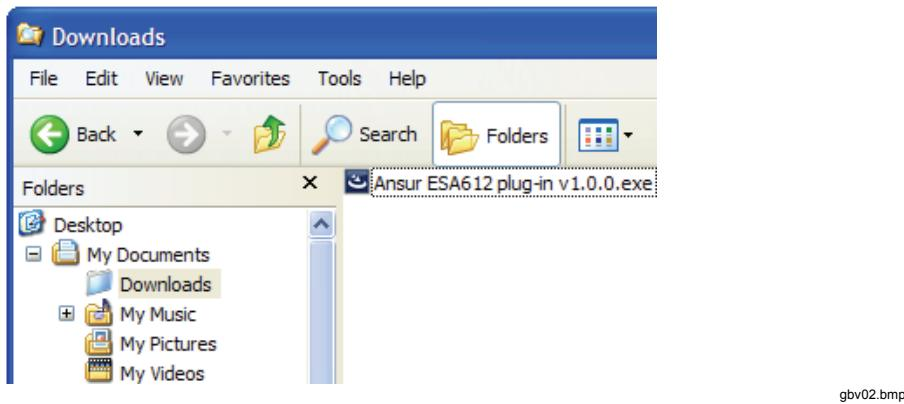

Figure 2-1. ESA612 Plug-In Installation File Location
1. Open **Windows Explorer** and browse to the saved ESA612 Plug-In installation program file, usually named **Ansur ESA612 Plug-In Vn.n.n.exe**, where *n.n.n* is the Plug-In version number. See Figure 2-1.